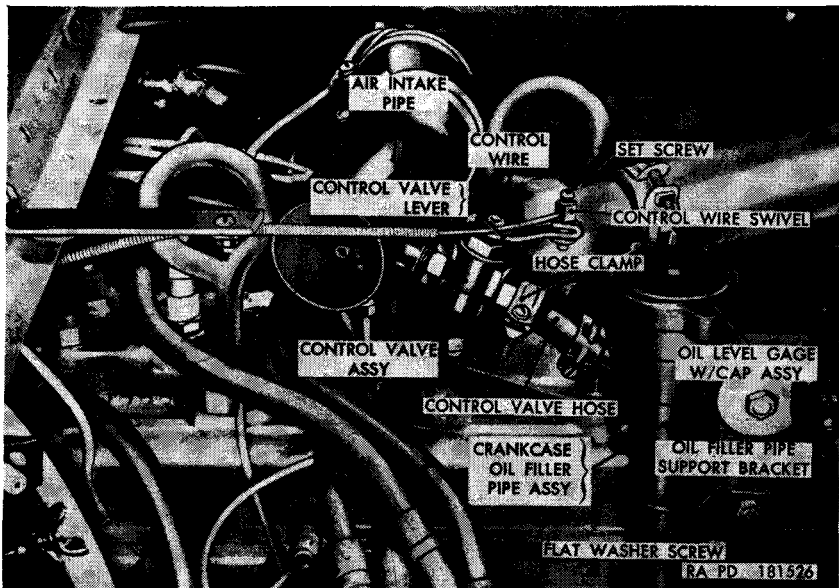

Figure 28. Air cleaner control valve assembly—air cleaner removed.
a. Air Cleaner Control Valve Assembly (fig. 28).
112. Oil Filler Pipe Assembly (fig. 28)